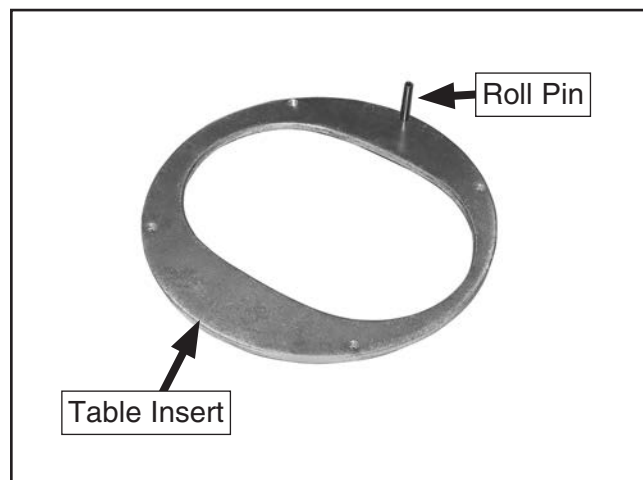

Figure 14. Inserting roll pins (bottom view).
12. Insert one 5 x 28 roll pin into the non-threaded hole in each of the three table inserts, as shown in **Figure 14**. Make sure it does not extend through the surface of the table insert.